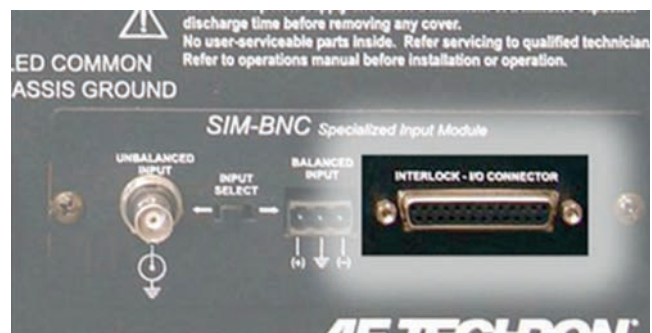

Figure 8.4 – Interlock I/O Connector
2. If both the Standby and Ready LEDs remain illuminated and the Interlock I/O Cable is being used, the amplifier is being held in Remote Standby mode by another device (see **Figure 8.4**). For more information on Remote Operation, see the **"Applications"** section in this manual.